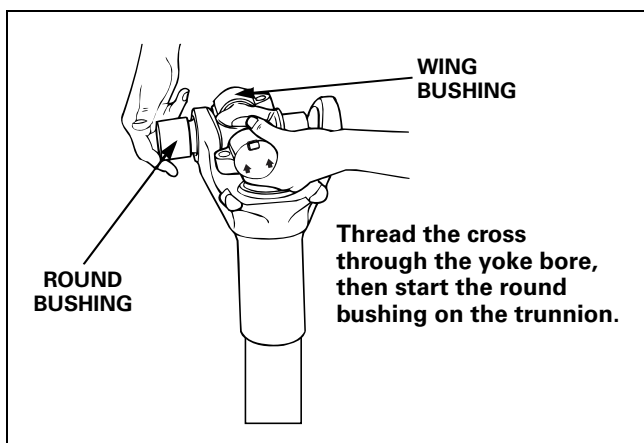

Figure 4.33
4. Position the first round bushing onto the trunnion by threading the cross trunnion through the yoke bore. Figure 4.33.